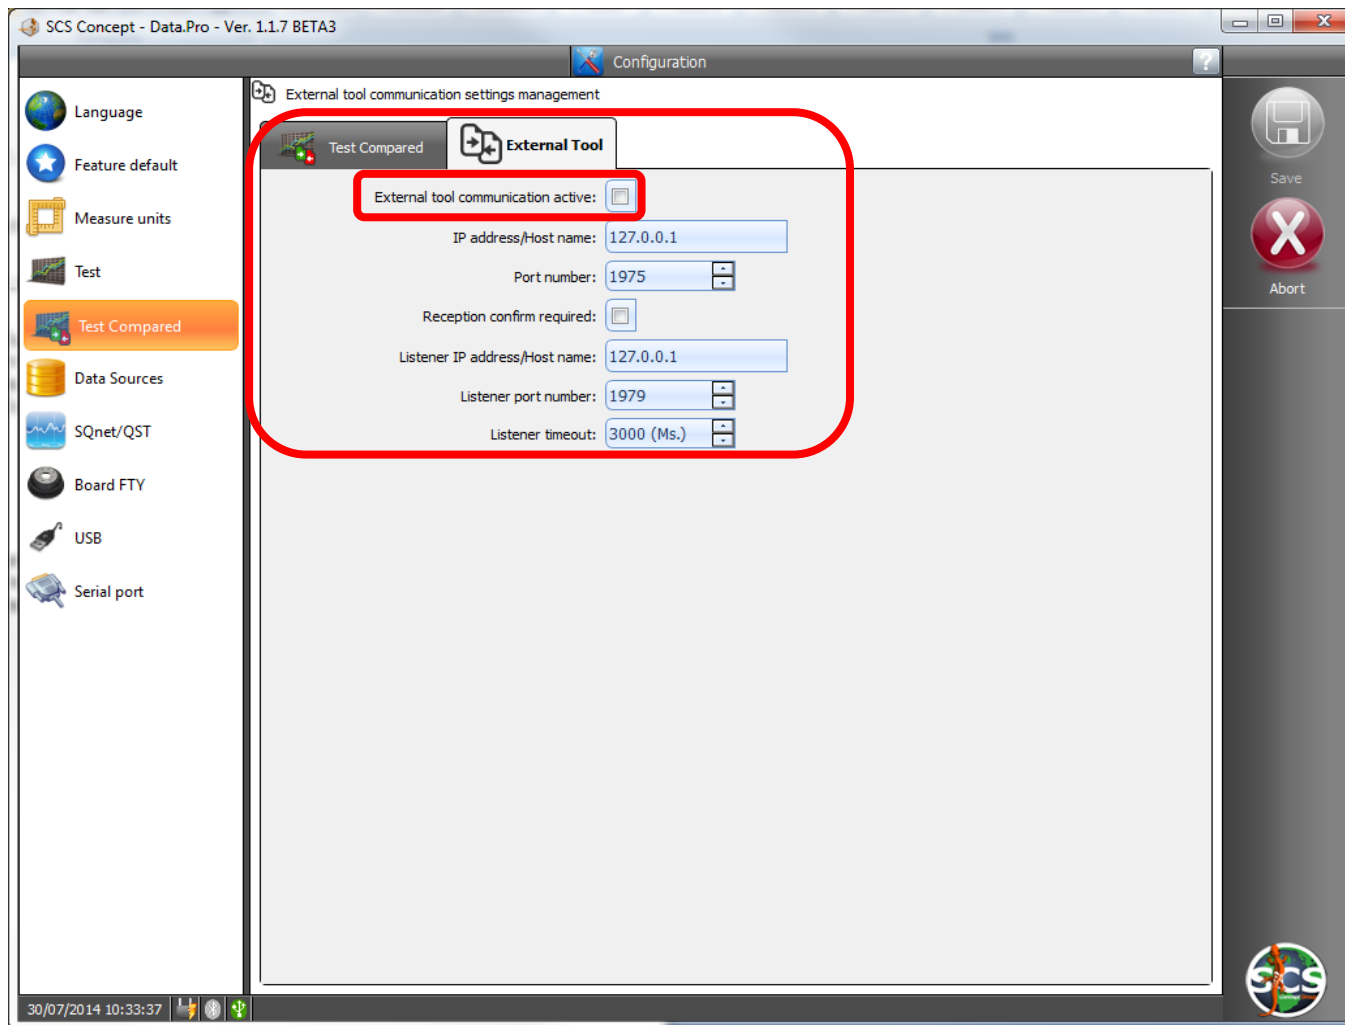

Figure 23
- in the **Configuration/Test Compared** user interface exists a specific section called **External Tool** (See **Figure 23**). It contains the configuration management necessary to communicate with the *SCS_ToolTray* utility. Please, for the moment, ignore this user interface (because the *SCS_ToolTray* utility is not still available) and you make sure that the external tool communication status is set to false (it should be in any case its default value).